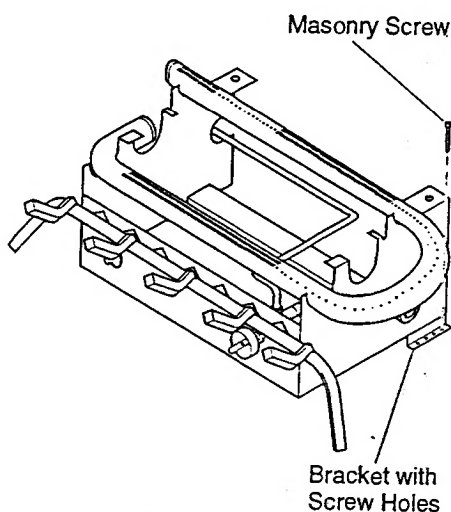

Figure 12 - Attaching Base Assembly to Fireplace Floor
4. Mark screw locations through one hole on each side of the mounting bracket (see Figure 12). If installing in a brick-bottom fireplace, mark screw locations in mortar joint of bricks.